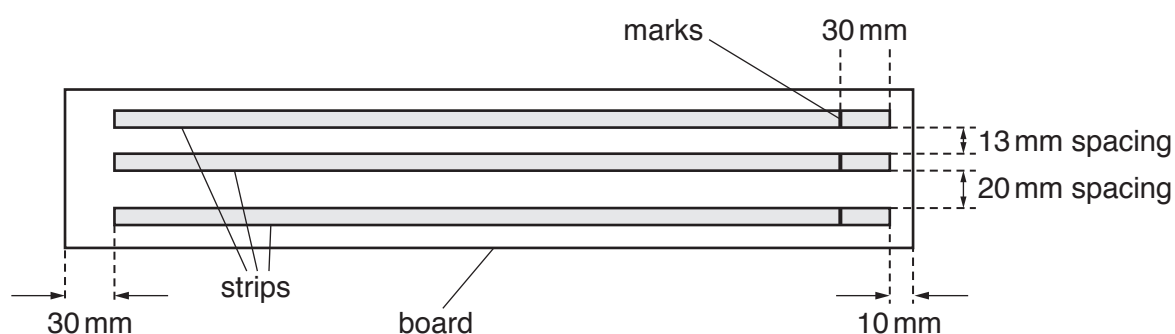

Fig. 2.1
- 1 Fix the three wooden strips securely to the wooden board in the positions shown in Fig. 2.1. All three strips must be parallel to each other.
Use a fine marker pen to make marks on the strips as shown in Fig. 2.1.